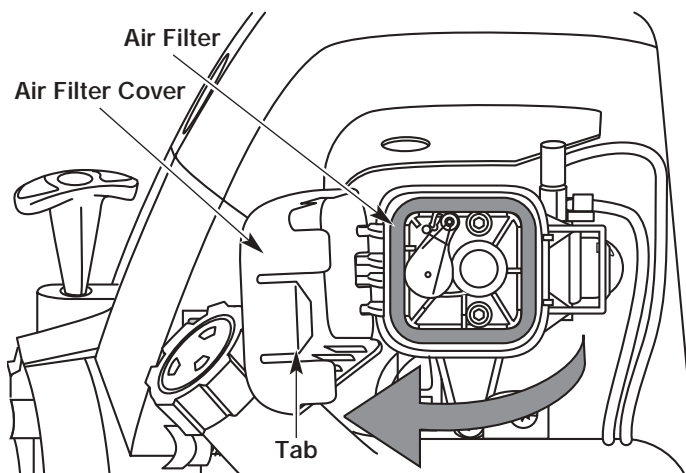

Figure 30
1. Open the air filter cover. Push the tab on the right side of the cover inward. Then pull the air filter cover out and to the left. See Figure 30.
2. Remove the air filter. See Figure 30.
8. Swing the cover to the right until the tab on the air filter cover snaps into place in the slot on the back plate. See Figure 30 and 34.